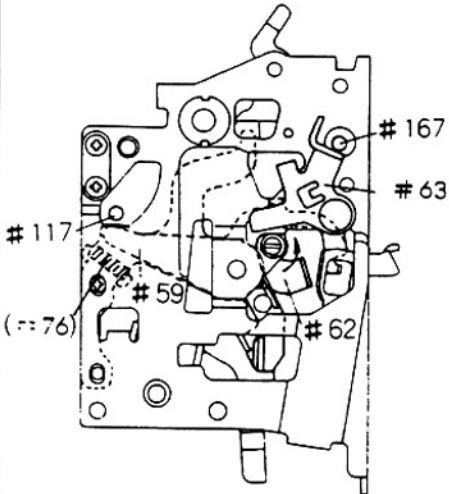

fig 2-4
- 1) Position Pin #117 above Main lever #59. (fig. 2-4)
- 2) Engage Pin #167 with Actuating lever #63. (fig. 2-4)